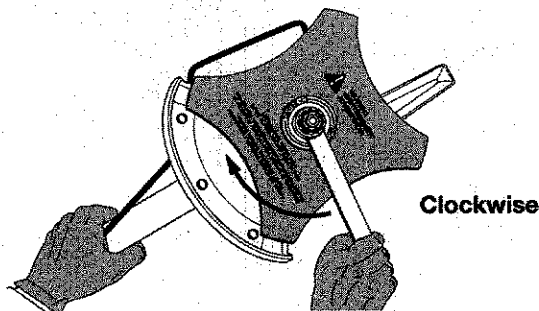

Fig. 15
- Hold the locking rod in place by grasping it next to the boom of the unit (Fig.15).
3. Whilst holding the locking rod, loosen the nut on the blade by turning it clockwise with a 5/8 inch closed-end or socket wrench (Fig. 15).